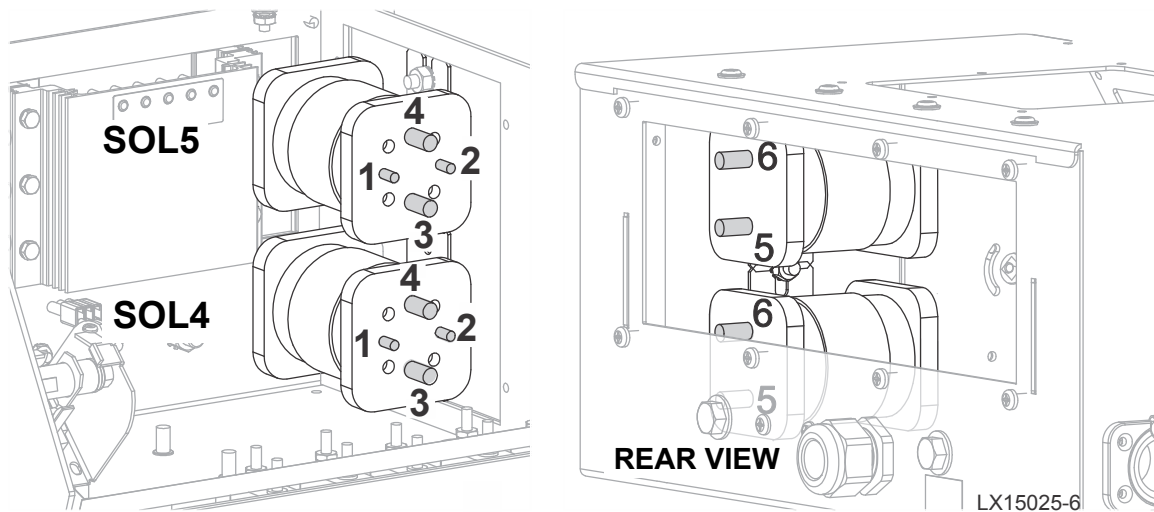

FIGURE 6
8. Disconnect the black jumper wire at solenoid SOL4, terminal #5 coming from solenoid SOL5, terminal #5. Loop the wire back to the solenoid SOL4, terminal #5 and reconnect it. (See FIG. 6.)
5. Disconnect violet motor wire from solenoid SOL5 terminal 6 and yellow motor wire from solenoid SOL4 terminal 6. Refer to FIG. 6 for solenoid terminal locations.